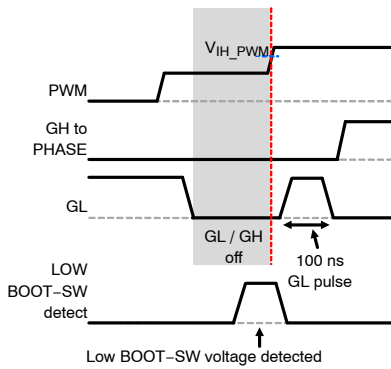

Figure 33. Low BOOT-SW Voltage Detected and PWM from 3-State to HIGH
- If the part exits 3-state with a low BOOT-SW voltage condition and the controller commands PWM = HIGH, the SPS outputs a 100 ns GL pulse and follows the PWM = HIGH command (see Figure 33).